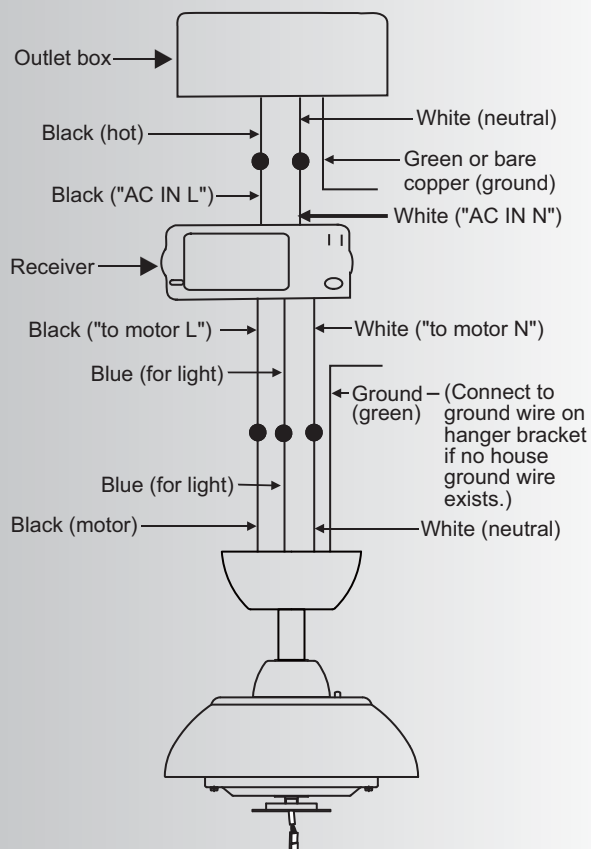

Fig. 14
Step 2. Motor to Receiver Electrical Connections: (Fig. 14) Connect the black wire from the fan to the black wire marked "TO MOTOR L" on the receiver.
Step 3. Receiver to Supply Wires Electrical Connections: (Fig. 14) Connect the black (load) wire from the ceiling outlet box to the black wire marked "AC in L" on the receiver. Connect the white (neutral) wire from the ceiling outlet box to the white wire marked "AC in N" on the receiver. Secure each set of electrical connections with the plastic wire nuts provided in the parts bag.